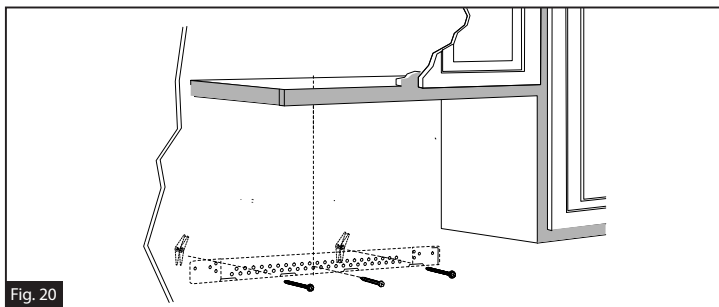

Fig. 20
1. Insert the machine screws (3/16" x 3") into the mounting plate through the holes designed to go into drywall and attach the toggle wings to 3/4" onto each machine screw (3/16" x 3"). (Fig. 20)